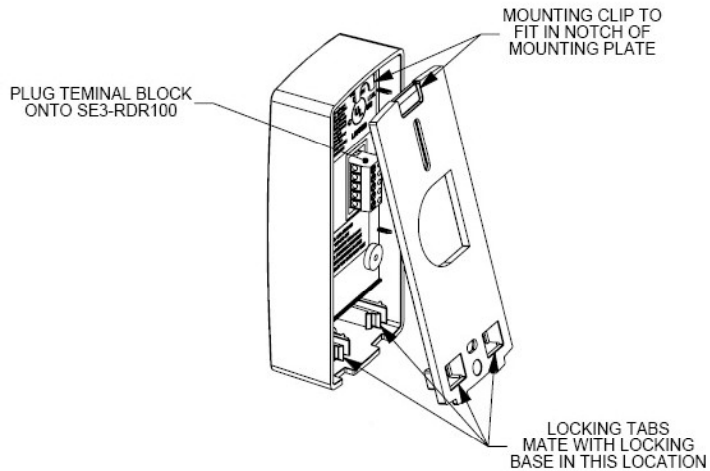

Figure 1-7 Mounting Plate Installation - Gang Box Mount
- Figure 1-7 Mounting Plate Installation - Gang Box Mount7